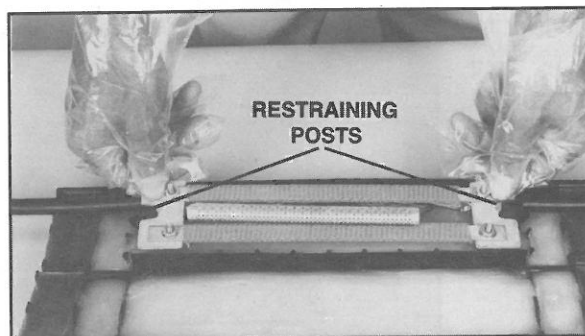

FIGURE 3 - BRIDGE AGAINST POST
3.06 With the bonding bridge facing up, position V-notch of each bridge against restraining post. This would be considered the bottom half of the closure. (Figure 3)